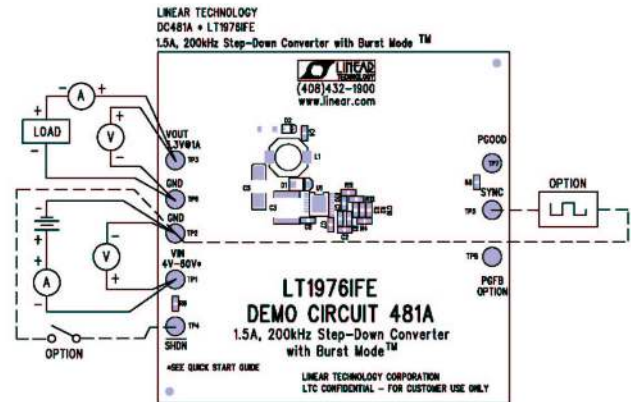

Figure 1. Proper Measurement Equipment Setup
Demonstration circuit 481 is easy to set up to evaluate the performance of the LT1976. Refer to Figure 1 for proper measurement equipment setup and follow the procedure below:
**NOTE:** Connect the power supply (with power off), load, and meters as shown in Figure 1.